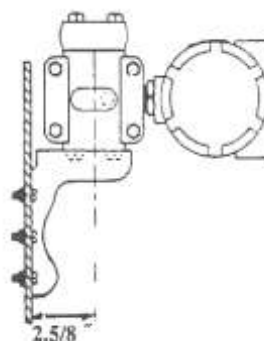

Figure 2-3 The installation of mounting angle bracket
**The installation of plat mounting angle bracket:** the typical installation as Figure 2-3 shows. Fix transmitter in angle bracket using four bolts provided, and then fix the angle bracket on the plate with the M10 bolt.